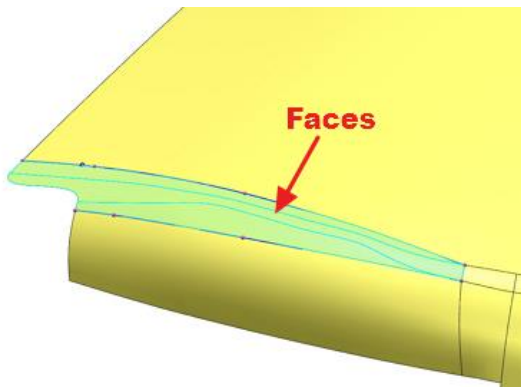

Figure 247
- Select the **Faces**, as shown in **Figure 247**.